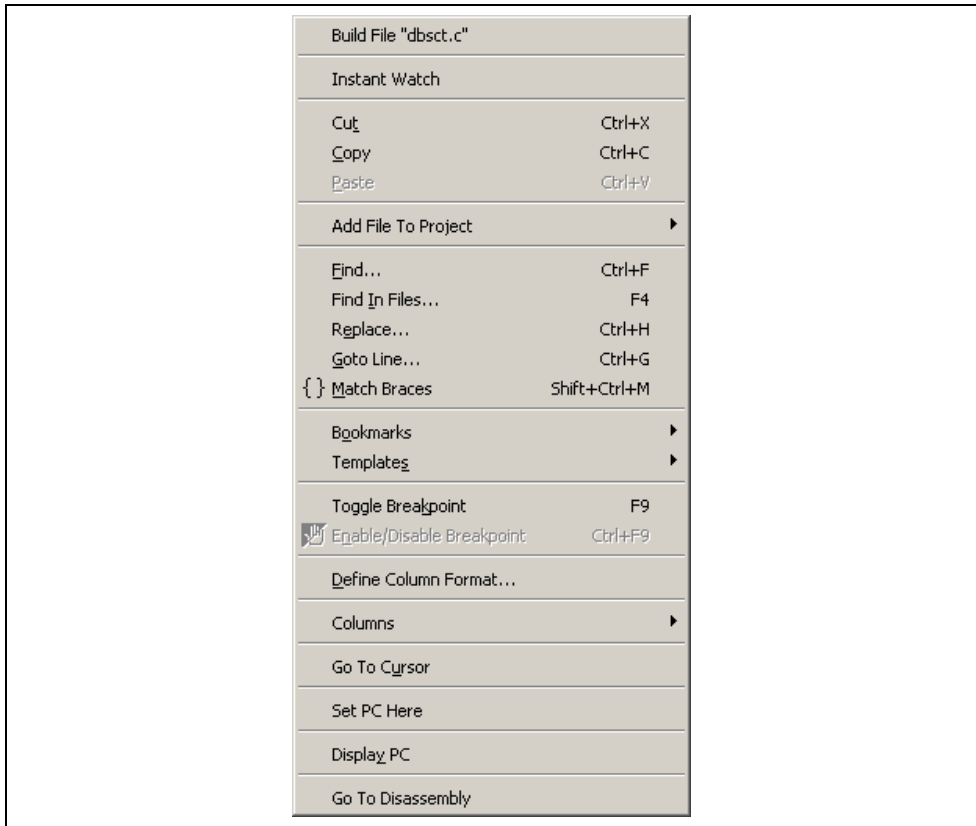

Figure 2.4: Editor Window Pop-up Menu
- Clicking right button on an open file in the editor window displays a pop-up menu option (figure 2.4). If the file is already in the project then the “Add File to Project” menu option is disabled. Selecting the “Add File to Project” then adds the file to the current project.